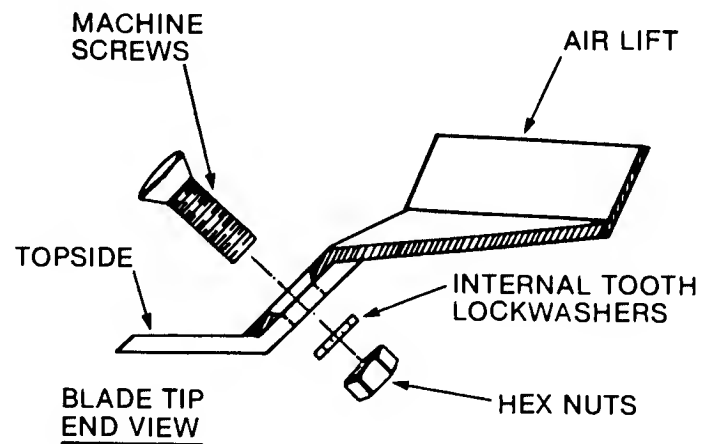

FIG. 1 - AIR LIFT INSTALLATION
1. **AIR LIFT INSTALLATION:** If the Riding Mower being prepared does not have air lifts installed on the blade tips, stand the Rider on its back bumpers and assemble the air lifts on the topside of the blade tips as shown in figure 1. **NOTE:** Tighten the retaining nuts 20-25 foot pounds torque to draw the bevelled heads of the machine screws firmly into the bevels of the air lift then retighten each to this same torque value. Return the Rider to its wheels, and continue the installation as follows.